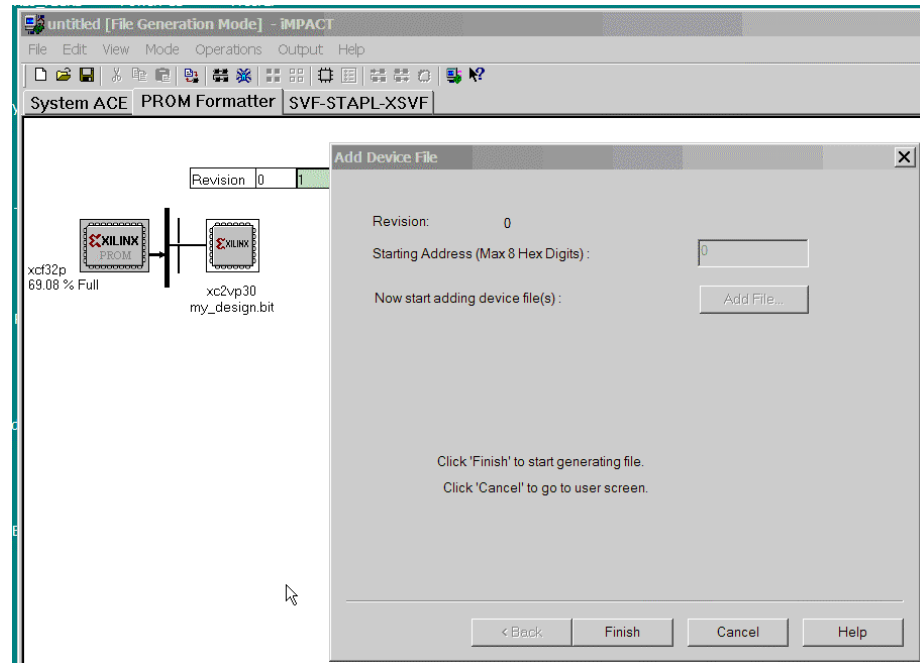

Figure B-9: Generating the MCS File
- Click on Open and answer No when prompted to add another design file to Revision 1. Click on Finish to start the generation of the MCS file as shown in Figure B-9.